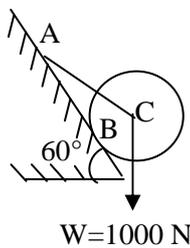

Fig. 12 Que. 5 (b) OR
- (b) A cylindrical roller 600mm diameter and weighing 1000 N is resting on a smooth inclined surface, tied firmly by a rope AC of length 600mm as shown in **fig. 12** Find tension in rope and reaction at B. **04**